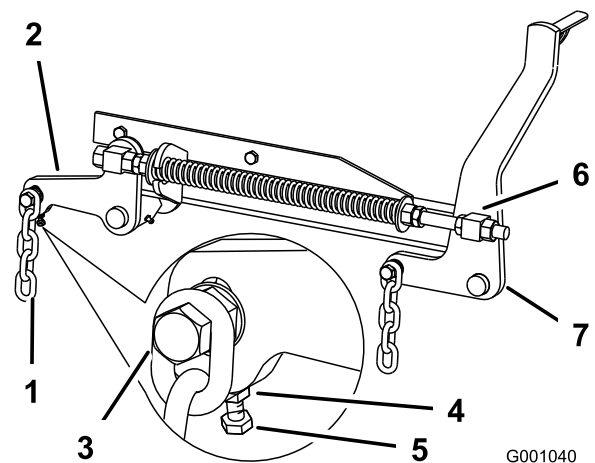

Figure 69
7. If the measurements at positions **B** or **C** are not correct, loosen the bolt attaching the rear chain to the rear support arm (Figure 69).
- Loosen the jam nut under the rear support arm and adjust the adjustment bolt to get a measurement of 3-1/8 to 3-1/4 inches (Figure 69).
- Loosen the front swivel jam nuts, at the front of the right and left swivels, approximately a 1/2 inch (13 mm) (Figure 69).
(6 to 10 mm) lower in front at **A** than in the rear at **B** (Figure 69).